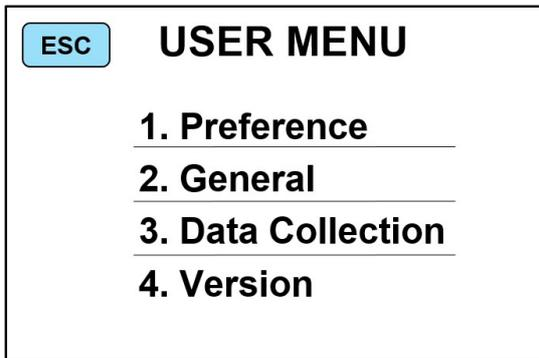
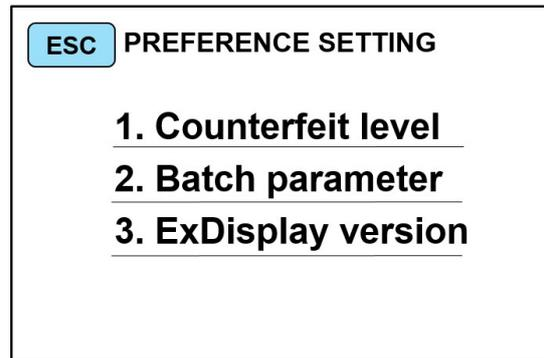
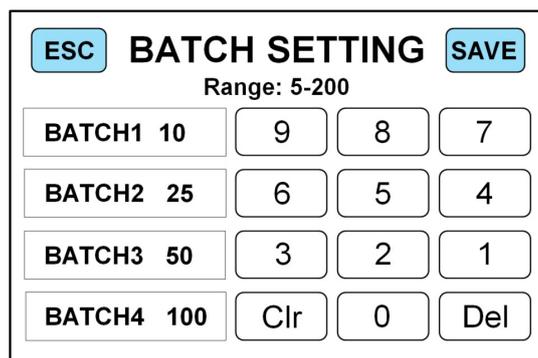

Figure 26
Figure 27
Figure 28
1) Press the “” key to enter the main interface of USER MENU, as shown in Figure 26 below. Press “**1.Preference**” to enter into PREFERENCE SETTING interface, as figure 27.
2) Press “**2.Batch parameter**” under Figure 26 to enter into Batch Setting interface, as figure 28.